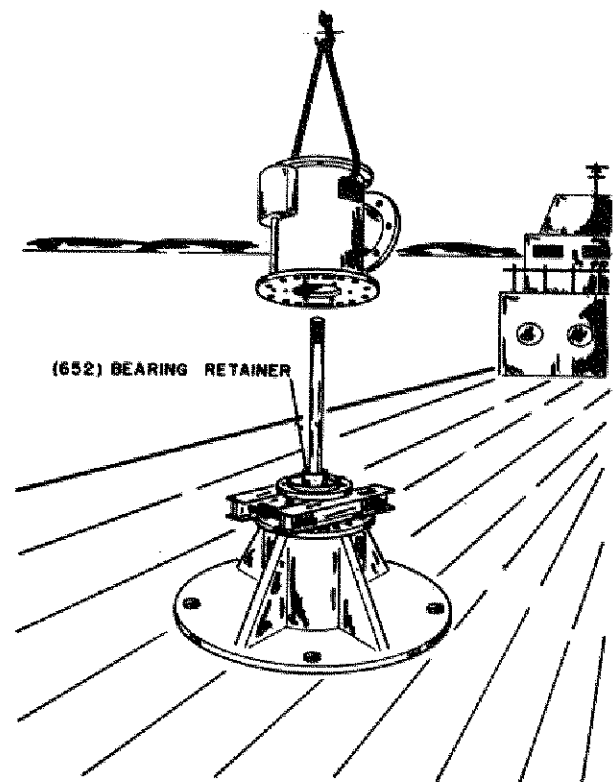

FIGURE 7-2. DISCHARGE HEAD INSTALLATION
C. Orient the discharge head in the required position and lower head, aligning the vertical hole with the headshaft protruding above the column until discharge head engages the bearing retainer (652) register. (See Figure 7-2.) Install capscrews and secure discharge head to bearing retainer. Tighten capscrews gradually in diametrically opposite pairs.